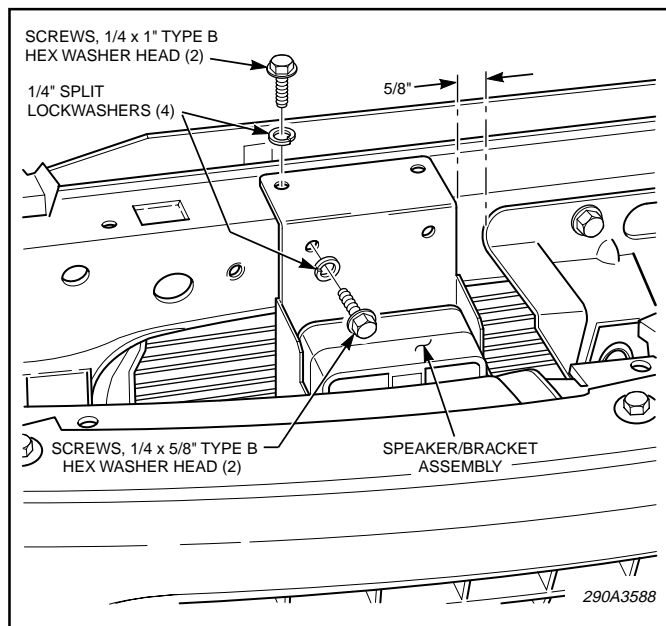

Figure 1.
a. Raise the vehicle hood. See figure 1. Locate the plastic panel between the radiator crossbar and the grille fascia.
d. See figure 1. Locate the radiator crossbar and measure 5/8" from the left (passenger) side of the hood latch and scribe a mark. Align the edge of the speaker/bracket assembly with the scribed mark. Using the bracket as a template, center punch four drill positions on the radiator crossbar.
f. To complete the mounting, secure the speaker/bracket in position using the two 1/4" x 5/8" and two 1/4" x 1" thread-forming screws and split lockwashers. See figure 1.